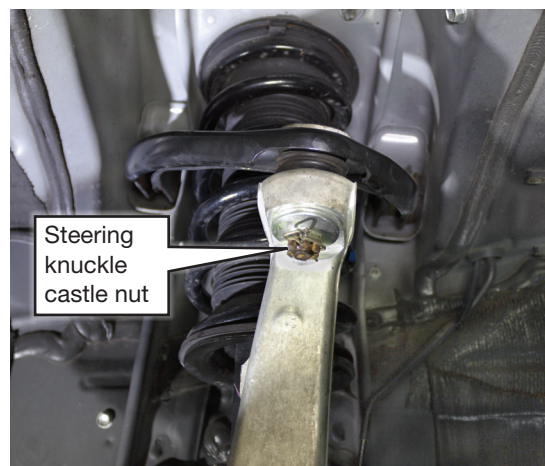

fig. D.2
3. Remove the cotter pin and castle nut from the steering knuckle (Fig. D.2). Disconnect the knuckle from the upper control arm.